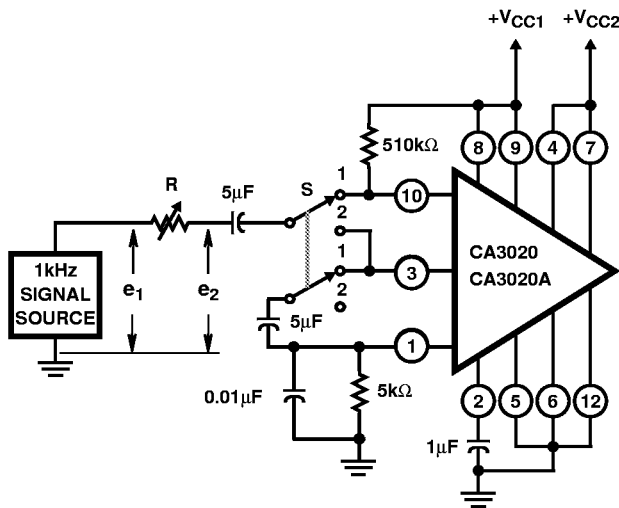

FIGURE 10. MEASUREMENT OF INPUT RESISTANCE
4. See Figure 10 for definition of $R_{IN(10)}$.